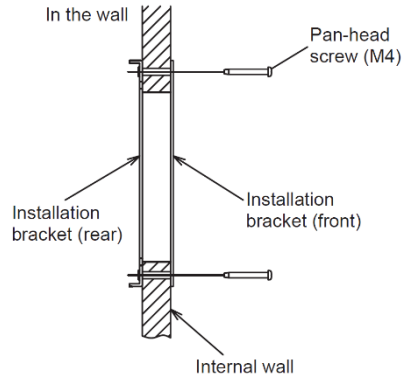

Fig. 3.4.4
- When fastening the brackets, ensure the front and rear installation brackets are installed in the correct direction. (Fig. 3.4.4).